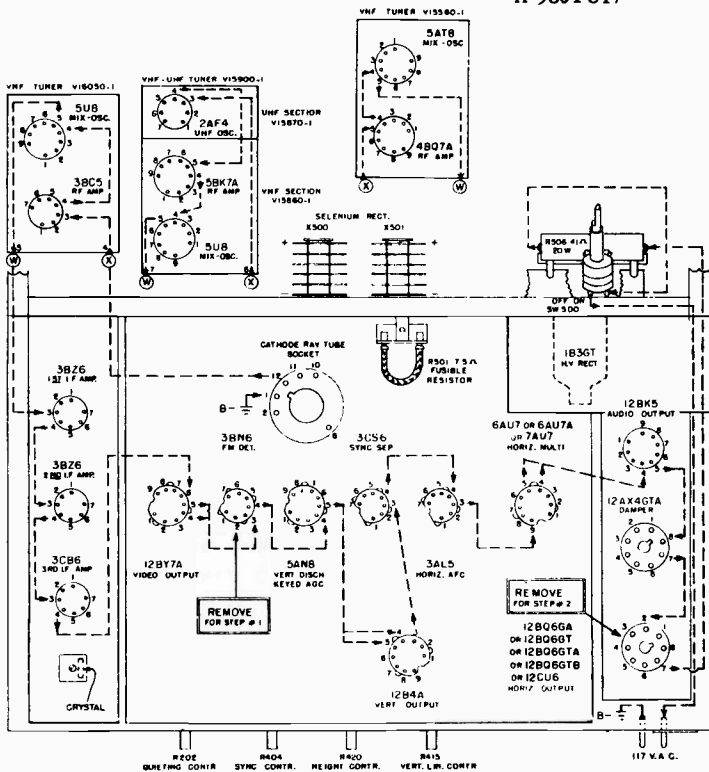

Fig. 12 Top View of Sockets for Heater Check
The drawing, Fig. 12, can be used as a guide in making these checks.
Step 1. With the back cover off, remove the 3BN6 as shown as Step No. 1 in Fig. 12 and check the tube from pins 3 to 4 for continuity. If the indicator does not light insert a new 3BN6. If the original 3BN6 filament is good, connect the clip lead of the indicator to any convenient B- point and insert the indicator pin into the No. 4 position of the 3BN6 tube socket. If the indicator does not light, the open filament lies between the 3BN6 tube and B- and can be located by checking at successive tube sockets between the 3BN6 tube and B- in the order shown by the dotted line in Fig. 12. If the indicator lights, continuity exists between the 3BN6 and B- and all the tube filaments between these points are good.
Step 2. Remove the horizontal output tube (See Fig. 12) from its socket and insert the indicator pin into the No. 2 position of the horizontal output tube socket and the pin of the clip lead into the number 5 position of the 3BN6 tube socket. If the indicator does not light the open filament lies between the horizontal output tube and the 3BN6 and can be located by checking at successive tube sockets between the horizontal output tube and the 3BN6 in the order shown by the dotted line in Fig. 12. If the indicator lights, continuity exists between the horizontal output tube and the 3BN6.